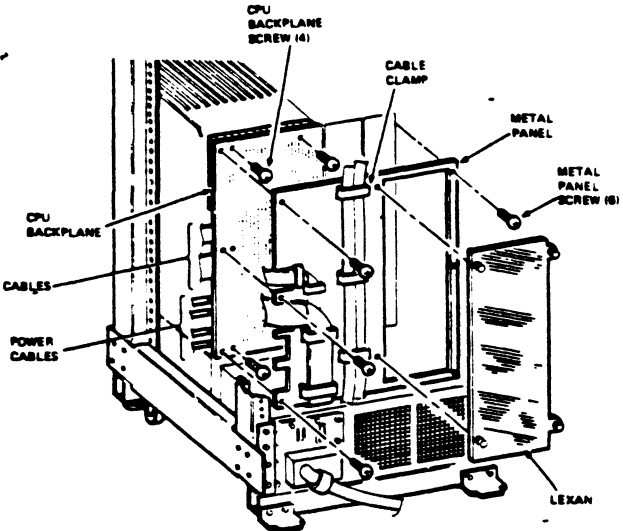

FIGURE 5-32 CABINET BACKPLANE REMOVAL
- 11. Remove the four black plastic retainers securing the plastic lexan cover over the space for the expansion backplane location. See Figure 5-32.